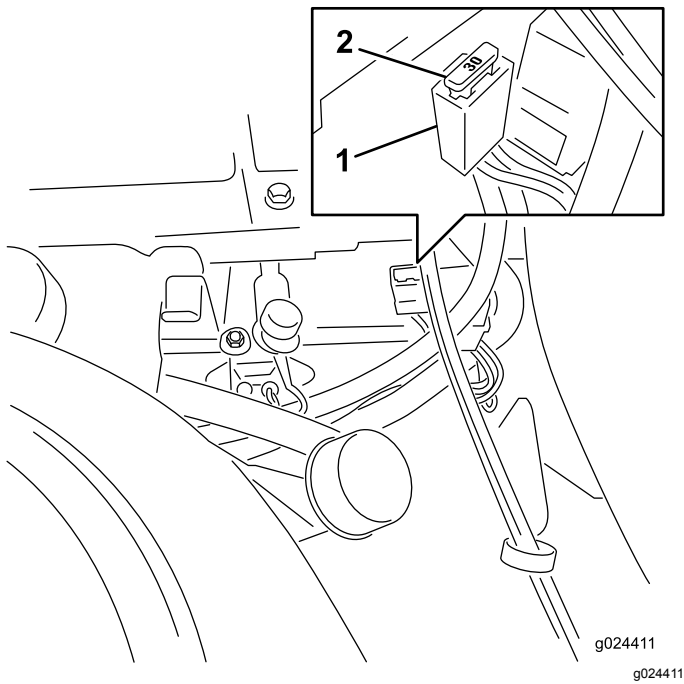

Figure 46
Note: The fuses are located on right hand console next to the seat (Figure 46).
4. Align a new fuse with the slot in the fuse block (Figure 46).
5. Push the fuse into the fuse block until the fuse is seated (Figure 46).